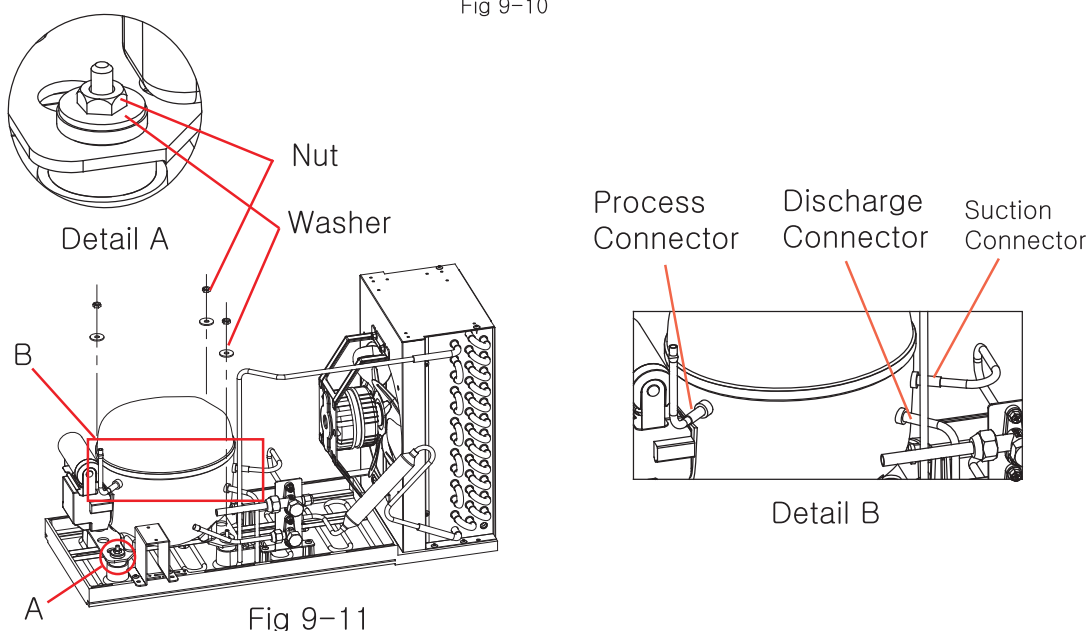

Fig 9-11
5. Loosen the nuts on the compressor. (Fig 9-11)